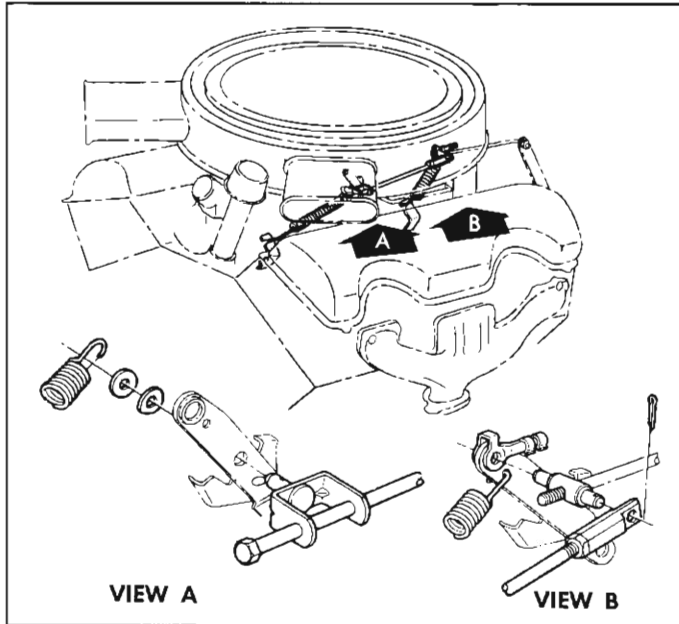

Fig. 34—RPO 587—Accelerator Linkage
5. If necessary to adjust, disconnect accelerator rod at carburetor and adjust swivel so it freely enters hole in carburetor throttle lever (fig. 34), then connect and secure accelerator rod with retainer clip.